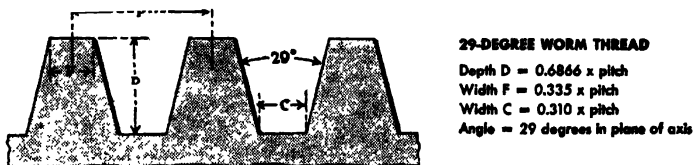

Fig. 17-6. The 29-deg. worm thread. (The Shell Oil Company)
*The 29-deg. Worm Thread* (Fig. 17-6). The 29-deg. worm thread is practically the same as the Acme. The only difference is that the depth is a little greater, while the width of the crest and root are proportionally less. This thread form is generally used where a fast or quick-action thread is required.